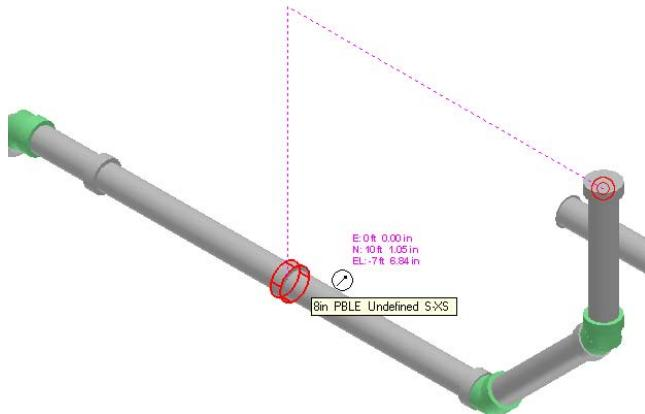

Figure 44: Defining the Second Point on the Plane
79. The system prompts you to specify the second point of the plane. Select another port on the lateral pipeline, as shown in Figure 44, to define the second point of the plane.